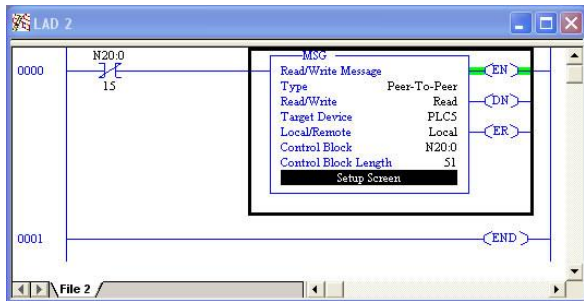

Figure 57: Completed PLC Program
7) The program is now complete. Refer to Figure 57.